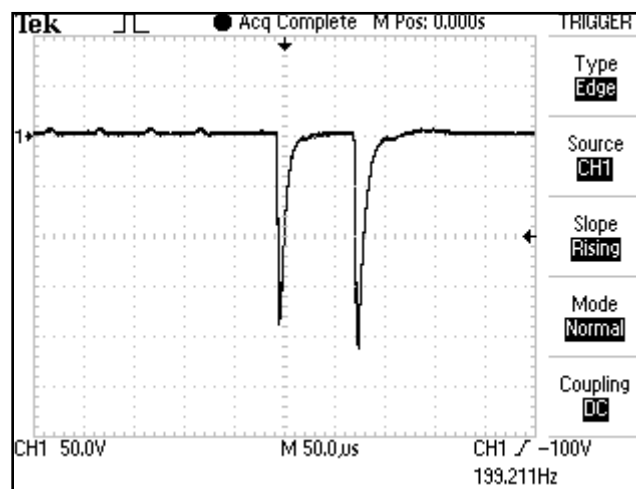

FIGURE 4.5
D. High Voltage Pulsed Current (HVPC)- Figure 4.5